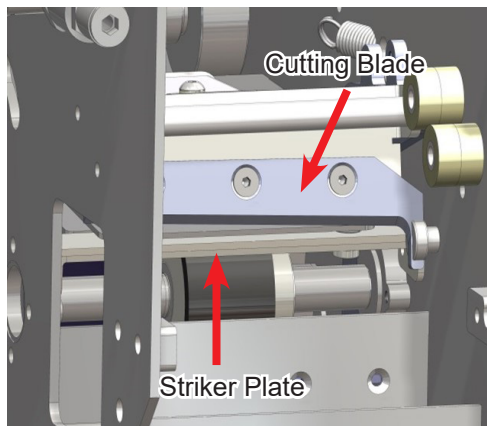

Figure 67: Striker Plate and Cutting Blade
5. Remove the cutter blade (refer to Figure 67).